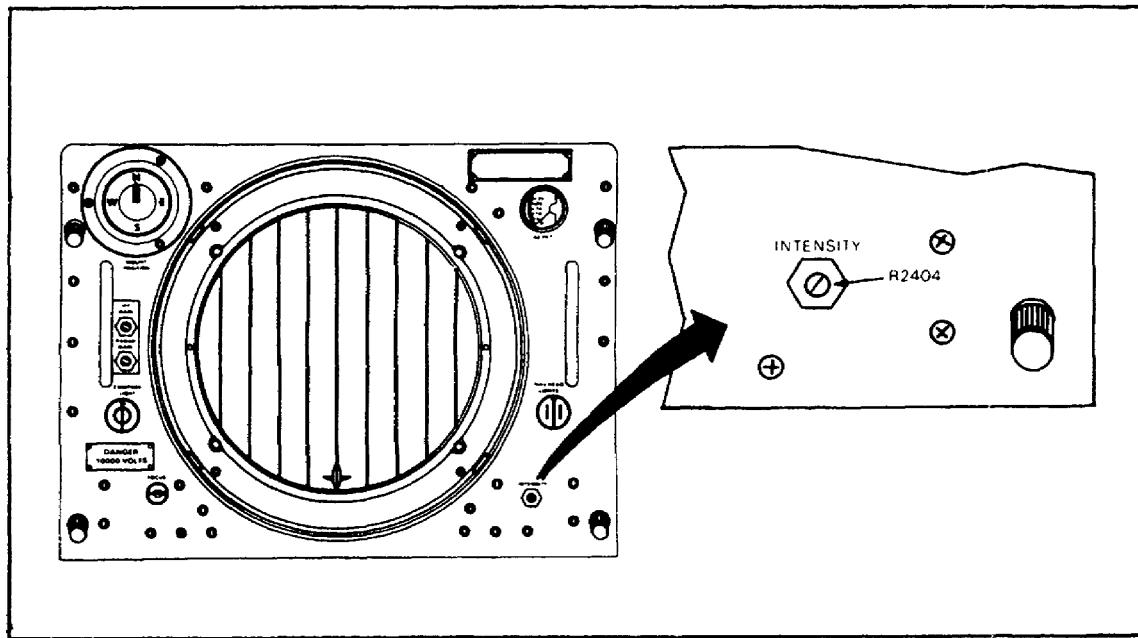

Figure 34. Indicator azimuth-elevation-range IP-800/FPN-40
k. Locate the INTENSITY control R-2404 on indicator, azimuth-elevation-range IP-800/FPN-40. (See Figure 34.)
- INTENSITY control R2404 (Figure 34)